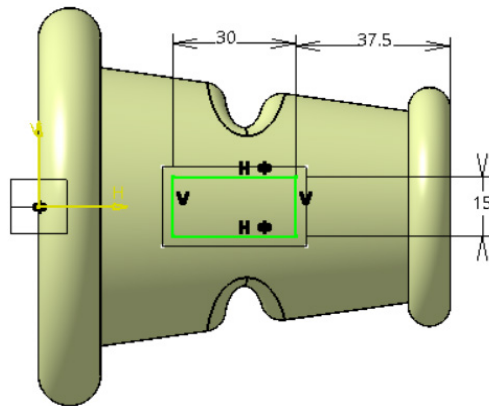

Figure 17-94 First sketch for the loft surface
7. Invoke the sketch workbench with the newly created plane as the sketching plane and then create the sketch, as shown in Figure 17-94, and exit the sketching environment. If required, you can hide the first sketch after projection for the ease of creating the second sketch.